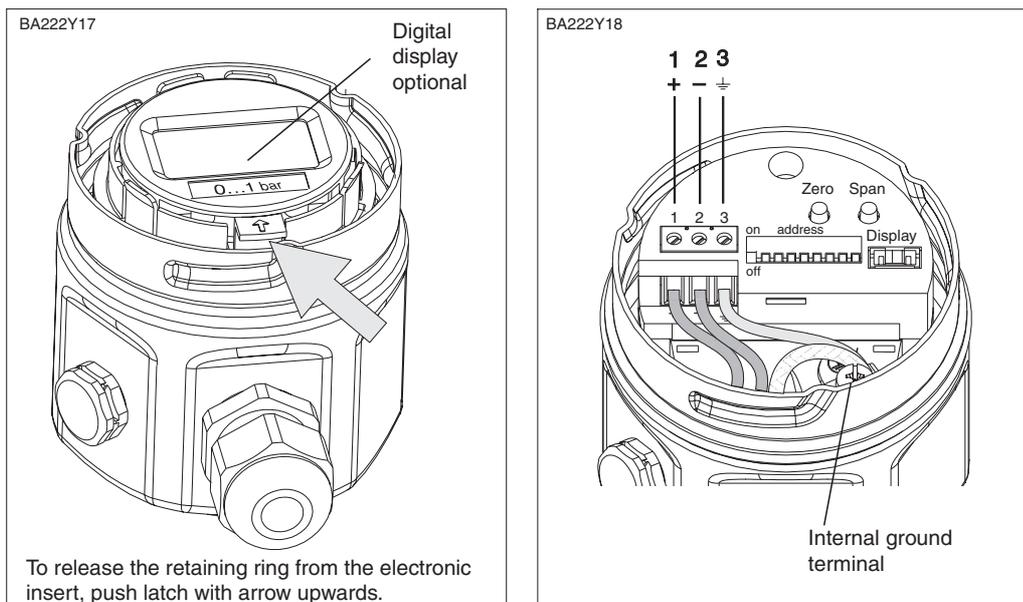

Figure 2.11
- Connect cable cores to terminals 1 and 2. See Figure 2.11. Reversed polarity has no effect on operation.